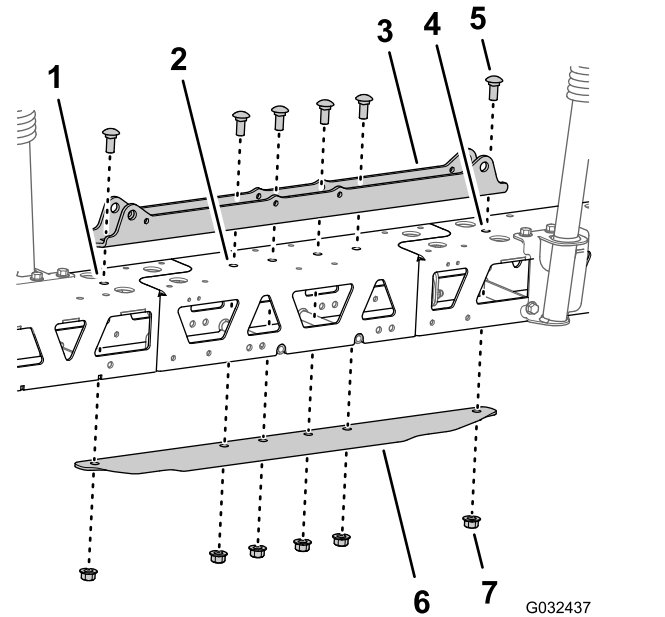

Figure 118
- Align the holes in the cylinder mount with the holes at the centerline of the middle truss frame (Figure 118).
- Insert the stiffener channel into the center and outer truss frames and align the hole in the channel with the holes at the centerline of the middle truss frame (Figure 118).
- Assemble the cylinder mount, trusses, center-boom extension, and stiffener channel with the 2 carriage bolt (1/2 x 1-1/4 inches) and 2 flange locknut (1/2 inch) that you removed in step 3 of Removing Sprayer Nozzles (page 37), and the 4 carriage bolt (1/2 x 1-1/4 inches) and 4 flange locknut (1/2 inch) from the GeoLink spray system finishing kit (Figure 118).